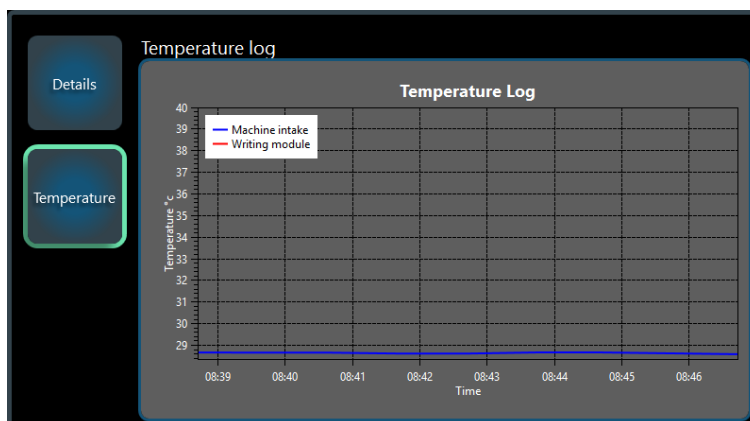

Figure 4-12 Temperature data
- 2.2. Click **Temperature** to see the temperature data for the project, see Figure 4-12. Data are given for the Writing Module and the machine air intake.